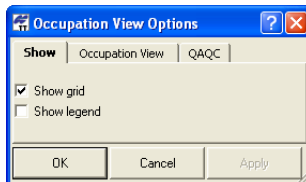

Figure 4-54. Occupation View Show Options
1. Click **View ► Occupation View Options** or right-click on an empty portion of the Occupation view and click **Options** on the pop-up menu. The *Occupation View Options* dialog box displays (Figure 4-54 on page 4-56).
2. On the *Show* tab, enable the desired parameters (Figure 4-54). Click **Apply** to save the settings and make further changes.